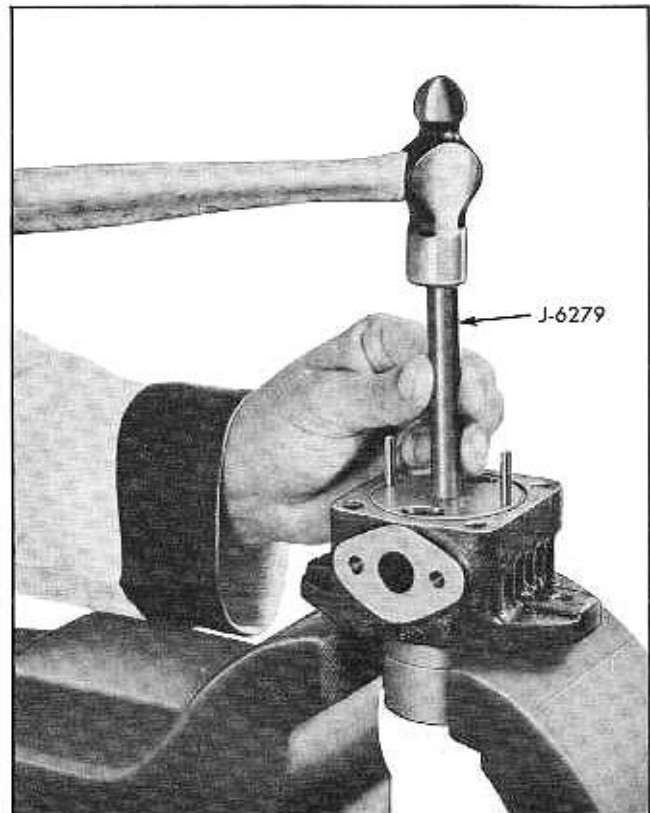

Fig. 9-81 Removing Inner Needle Bearing from Pump Body
16. If it is to be replaced, remove inner needle bearing from pump body using tool J-6279 (Fig. 9-81).